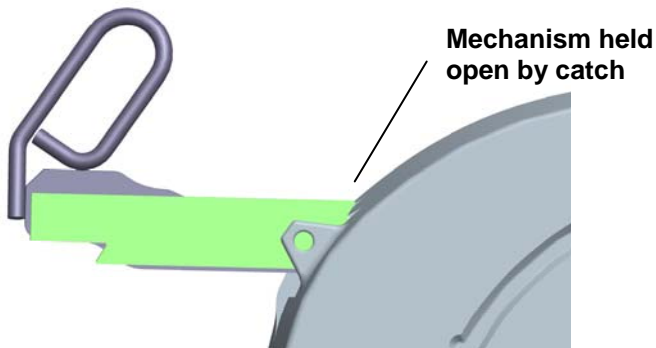

FIGURE 6
3. Depress the push button energizing air cylinder. The cylinder extends causing release arm to unlock Fifth Wheel (see figure 6).
**Note:** The air cylinder will retract after releasing the push button and the mechanism will be held in the open position by a catch on the release handle until the kingpin is removed from the fifth wheel (see figure 6).